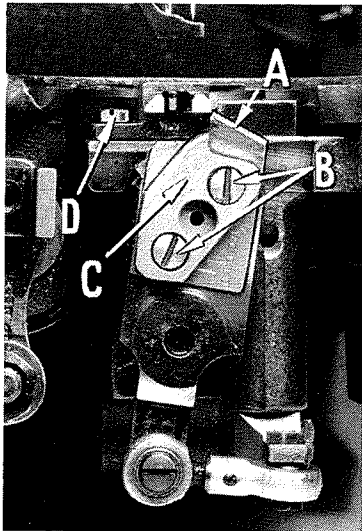

Fig. 14
Set the hook (A, Fig. 14) high on the carrier, and tilt forward as far as it will go. Loosen screws (B) to make this adjustment. The hook needle guard (C) guards the right side of the needle and has no adjustment.